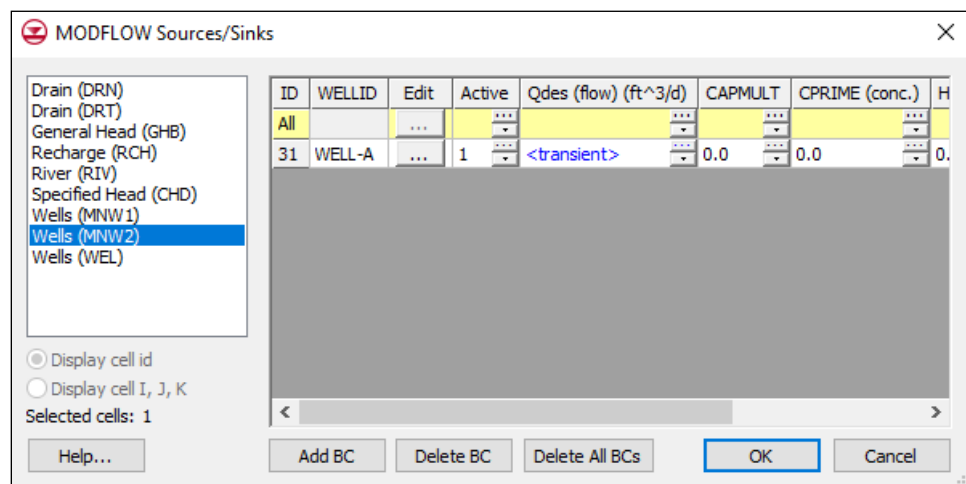

Figure 11 Sources/Sinks dialog
2. Right-click on the selected cell and select **Sources/Sinks...** to bring up the MODFLOW Sources/Sinks dialog (Figure 11).